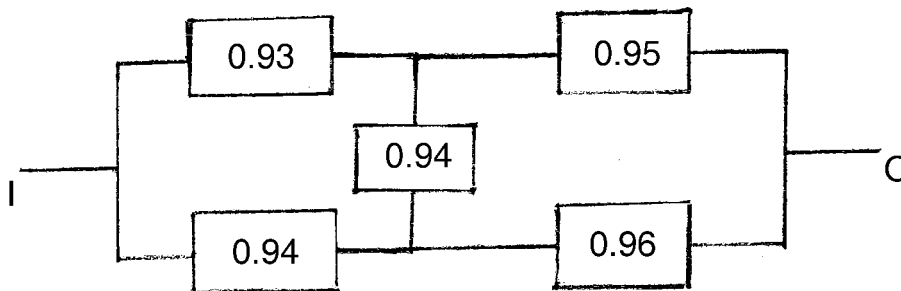

Fig. 1
- b) The network shown in the fig. 1 indicates the reliabilities of the component. Find out the reliability of the system by using Star-delta method. 8